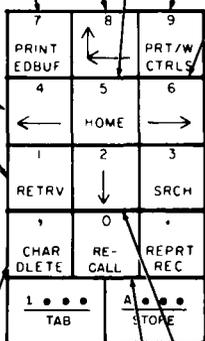

Fig. 10—Numeric/Edit Pad — Tabletop
3.12 The functions of the numeric/edit pad are described in Fig. 10.
- 2.01 A 100982 screwdriver, 1/4-inch, 6-inch blade, is required to secure wires to the Telex lines or cables to the PT unit (ASR) and line interface unit (if present). A 129534 1/4-inch wrench is required to remove the pedestal rear panel to remove or install packing details. Packing detail numbers are shown in Fig 10 through 14 for Pedestal Based KSR, Fig. 15 through 17 for Pedestal Based ASR and Fig. 23 for Tabletop Terminals.